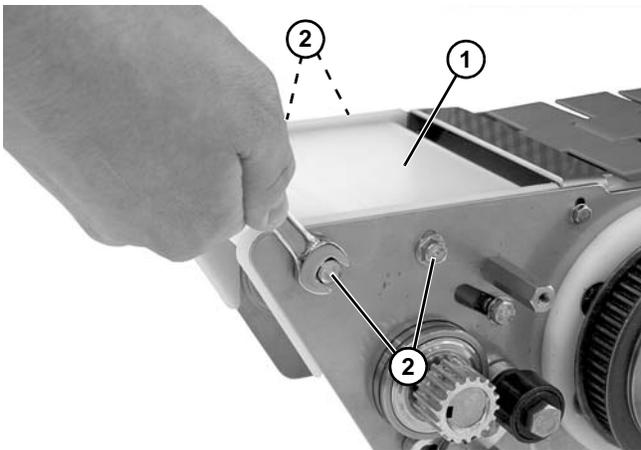

Figure 73
5. Install wear bar assembly (**Figure 73, item 1**) with four screws (**Figure 73, item 2**).